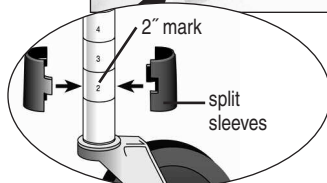

figure 2a
- A** Posts are numbered in 1" increments. Snap split sleeves onto each post at the 2" mark as shown in *figure 2a*. The thicker part of the taper goes toward the bottom. Make sure rib in split sleeve is seated into groove on post.